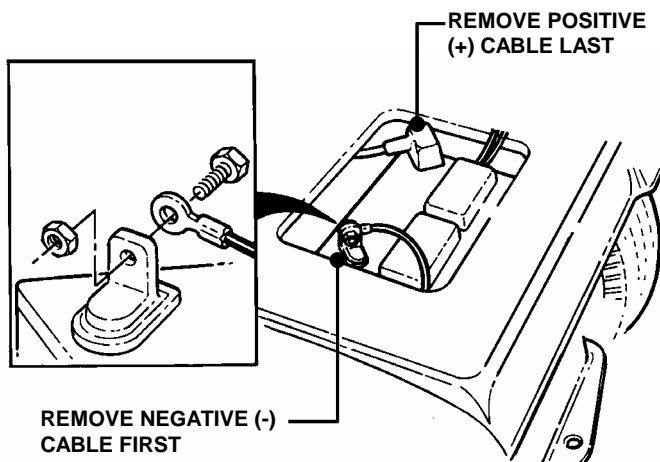

FIGURE 4.35
6. Remove battery. See Figure 4.35.